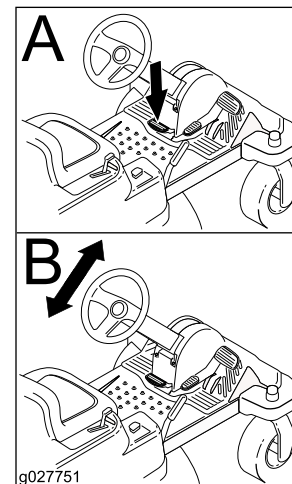

Figure 17
2. Position the steering wheel to the desired position (Figure 17).